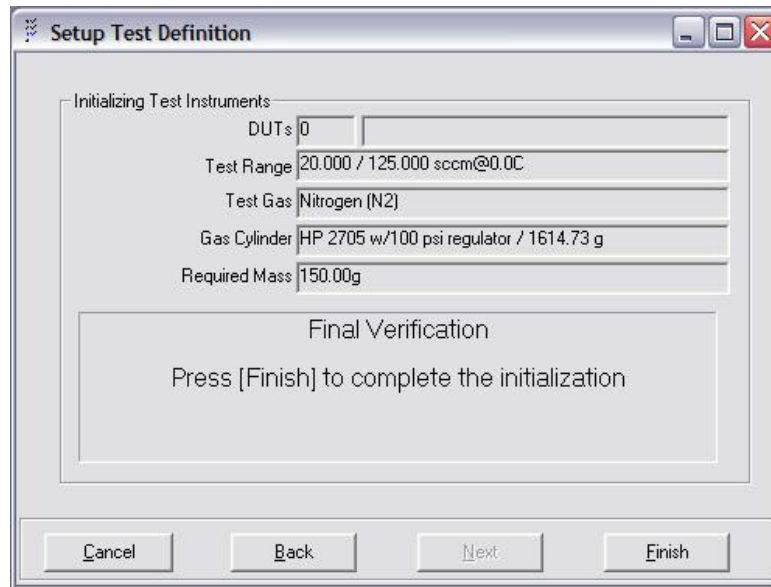

Figure 106. Run Test - Initializing Test Instruments window
- 7 The “**Initializing Test Instruments**” window will appear (see Figure 106). Select “**Finish**” and GFS Tools will initialize all components needed for the test, including the balance, LCM, and all components selected in the previous steps. Once initialization is complete all options and points of the test definition will execute in pre-defined order with no further user intervention required.
- 6 The “Initializing Test Instruments” window will appear (see Figure 106). Select “Finish” and GFS Tools will initialize all components needed for the test, including the balance, LCM, and all components selected in the previous steps. Once initialization is complete the system will be ready but idle. All run-time options and functions will now need user input to continue.